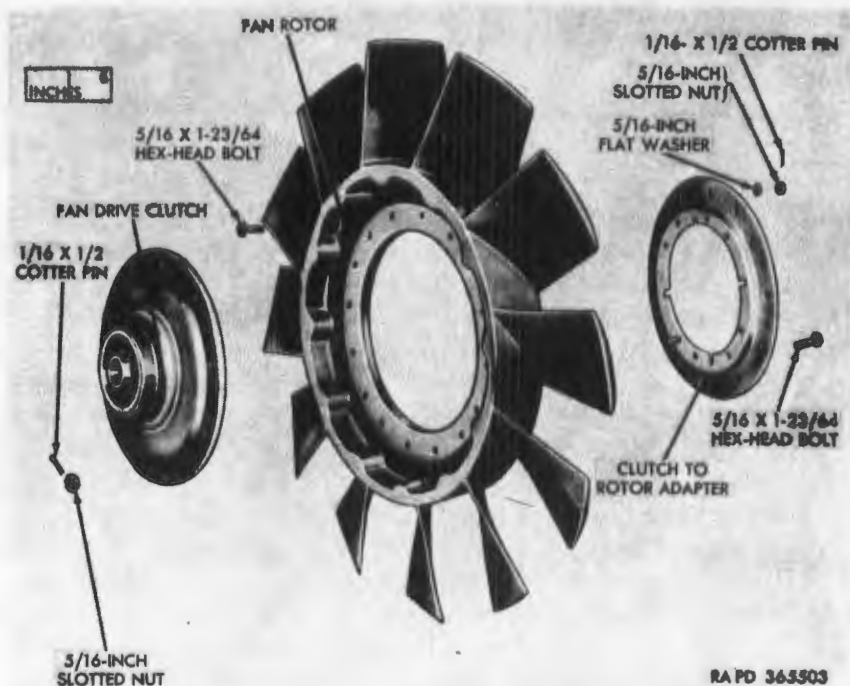

Figure 135. Fan rotor and drive clutch—exploded view.
a. General. The fan motor is a 12-blade unit mounted horizontally above the engine and driven by bevel gears through a drive clutch (fig. 135) incorporated in the hub. The main purpose of the fan drive clutch is to provide a safety slipping action in the fan drive system which will absorb any sudden increase in load such as may be encountered during a deep water fording operation.
c. *Disassembly* (fig. 135). Remove 16 cotters pins, slotted nuts, hex-head bolts, and 32 flat washers securing fan drive clutch and clutch to rotor adapter to fan rotor and separate clutch and adapter from rotor. Remove 10 cotter pins, slotted nuts, and hex-head bolts securing fan drive clutch to adapter and separate clutch from adapter.
d. *Assembly* (fig. 135). Install clutch to rotor adapter on fan drive clutch, aligning adapter dowel in clutch housing dowel hole. Secure clutch to adapter with ten $\frac{5}{16}$ x $1\frac{5}{16}$ hex-head bolts, $\frac{5}{16}$ -inch slotted nuts, and $\frac{1}{16}$ x $\frac{1}{2}$ cotter pins. Position assembly clutch and adapter on fan rotor and secure with sixteen $\frac{5}{16}$ x $1\frac{3}{16}$ hex-head bolts, $\frac{5}{16}$ -inch slotted nuts, $\frac{1}{16}$ x $\frac{1}{2}$ cotter pins, and thirty-two $\frac{2}{16}$ -inch flat washers.